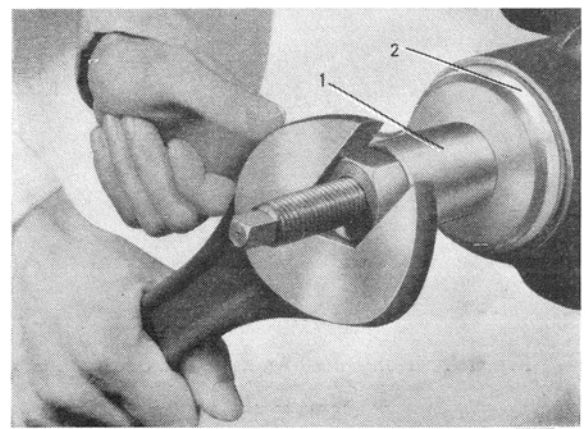

Fig. 8. Fitting of seal ring.
3. Insert a new paper washer and fit the new seal ring with an SVO tool as shown in fig. 8. (See page 20 for the SVO tools used on the various rear axles).